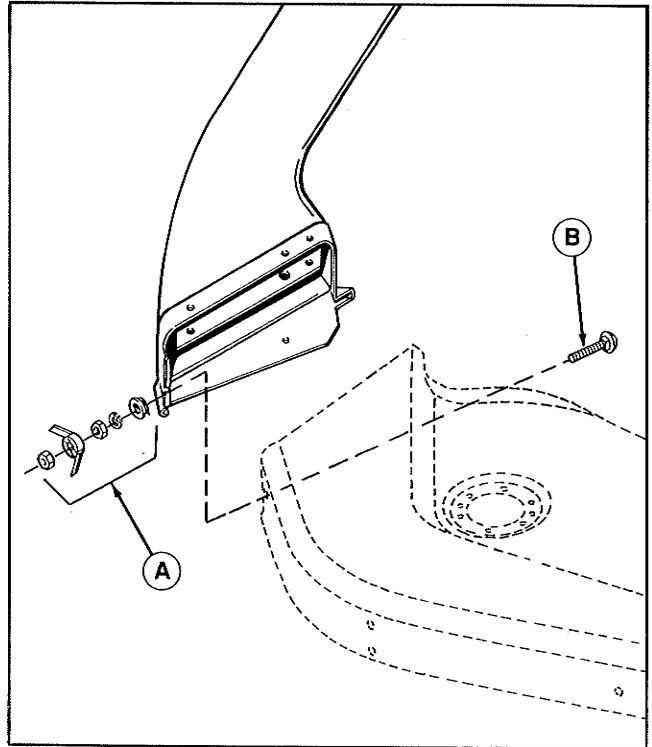

Figure 3.
7. Install carriage bolt (B, figure 3) through front hole in deck and install wing nut assembly (A). Install cup (small end towards deck), lockwasher, nut, wing nut, and centerlock nut. Lockwasher and nut must be seated inside cup and centerlock nut should be flush with end of carriage bolt.